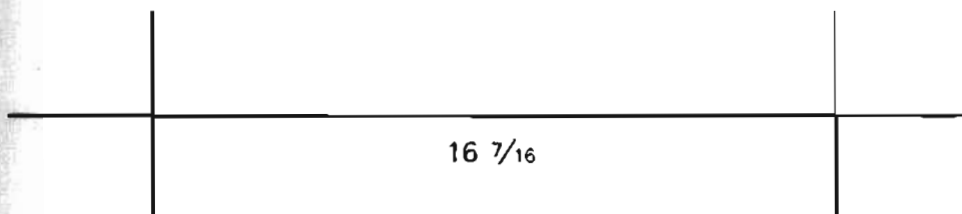

Figure 50
- (1) Place destroyer on level ground about 80 to 120 feet from flat surface selected.
- (2) Draw a straight horizontal line on selected surface; intersect it with two vertical lines 16  $\frac{7}{16}$  inches apart (fig. 50).